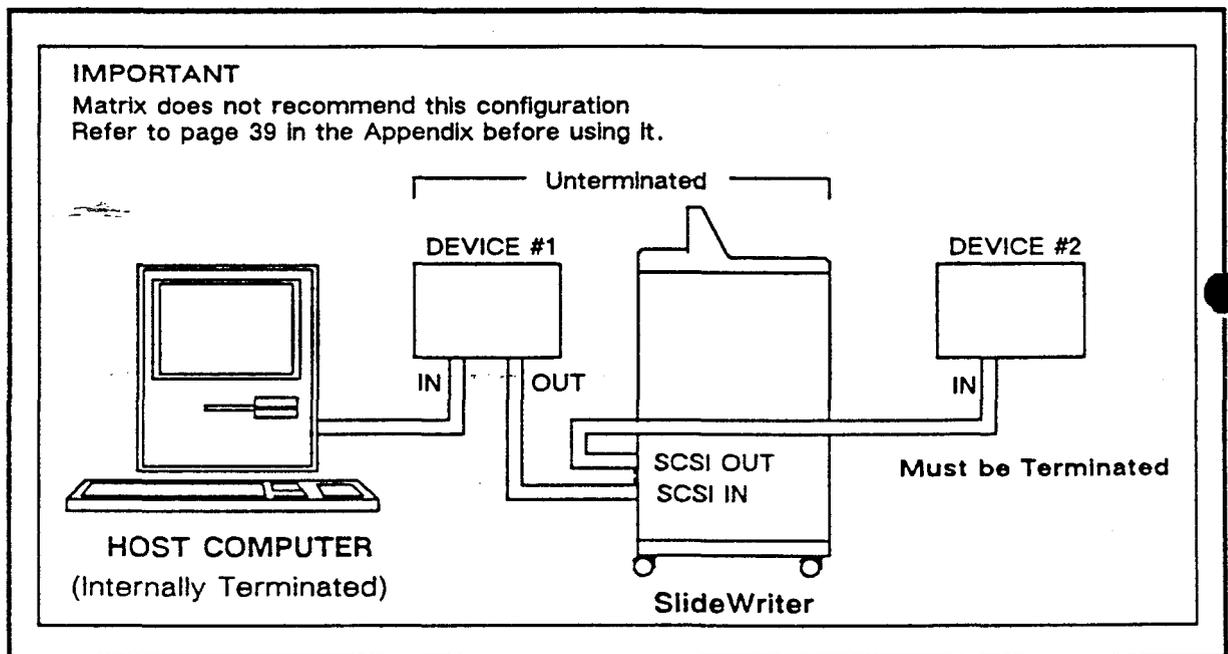

Figure 2-6. Alternate Multiple Device Setup with SlideWriter Unterminated and in the Middle of the Device Chain
- The SlideWriter has internal SCSI bus termination. If you decide to install the SlideWriter in the middle of the device chain, as in Figure 2-6, then its terminators must be removed. Refer to page 39 of this manual for complete instructions.